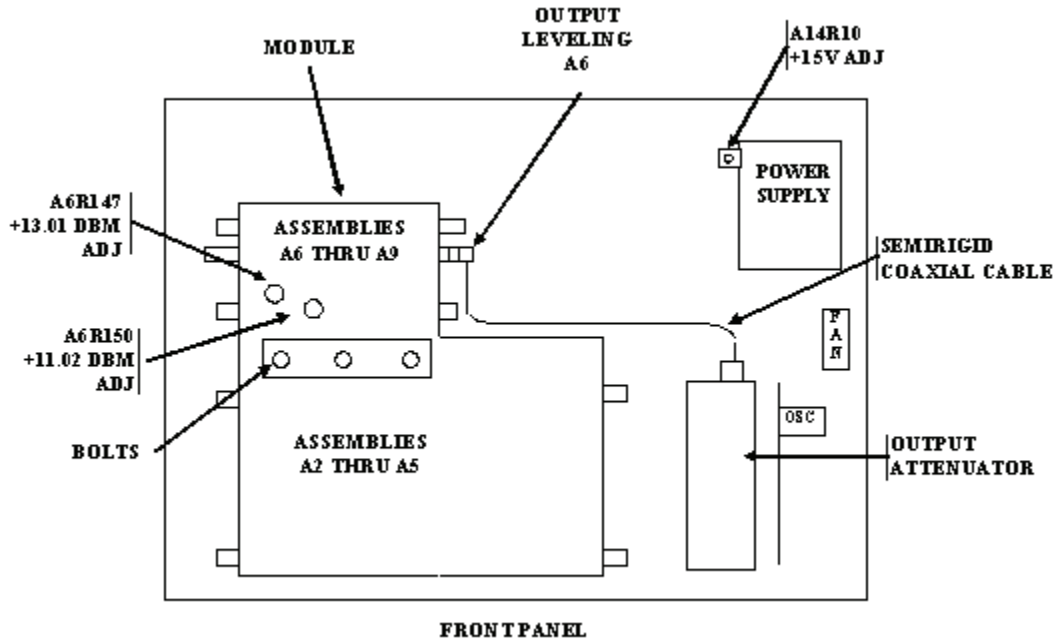
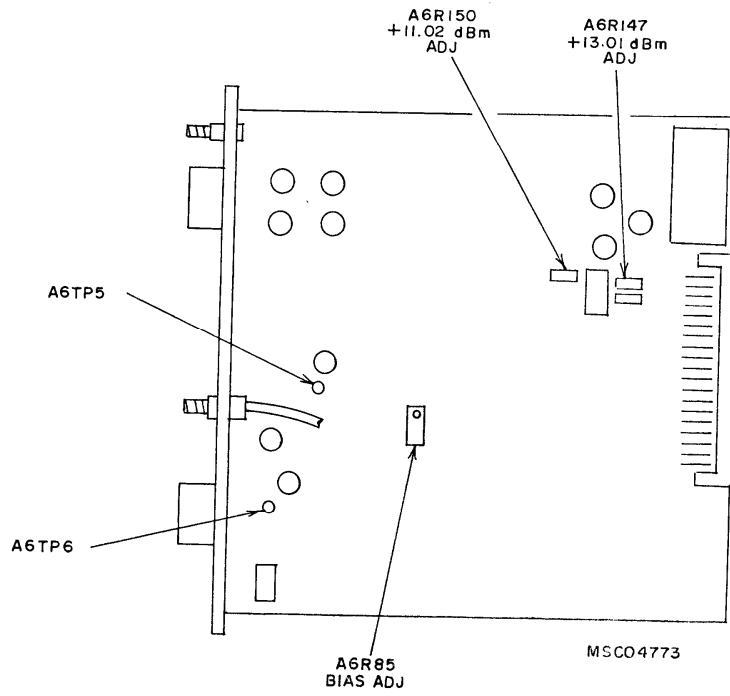
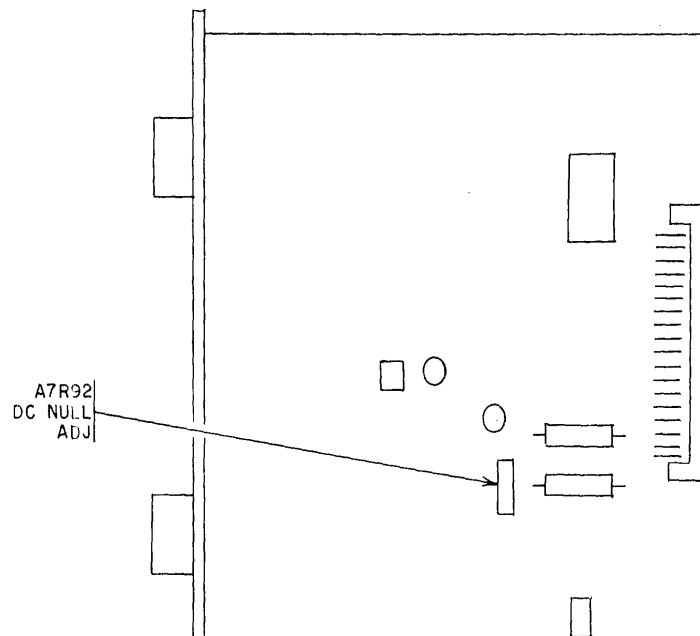

Figure 1. Test Instrument – top view.
Figure 2. A6 output amp/level control.
Figure 3. A7 mixer.
- (1) Press **ON-STBY/POWER** pushbutton to **OFF**.
- (2) Remove top cover.
- (3) Remove three bolts that hold module to chassis (fig. 1).
- (4) Remove semirigid coaxial cable (fig. 1).
- (5) Turn TI on side and remove module from chassis (fig. 1).
- (6) Remove assemblies A6 and A7 (fig. 1) and place on extender boards.
- (7) Install cable from **OUTPUT LEVELING A6** to output attenuator (fig. 1).
- (8) Press **ON-STBY/POWER** pushbutton to **ON**, then press **10, kHz/+dBm, AMPLITUDE, 13.01, kHz/+dBm** pushbuttons.
- (9) Ground A6TP5 (fig. 2).
- (10) Connect multimeter between A6TP6 (fig. 2) and chassis ground. Adjust **A6R85 BIAS ADJ** (fig. 2) for 0 V ±0.01 V dc (R).
- (11) Remove ground from A6TP5 and adjust **A7R92 DC NULL ADJ** (fig. 3) for 0 V ±0.01 V dc (R).
- (12) Press **ON-STBY/POWER** pushbutton to **OFF**.
- (13) Remove extender boards and reinstall assemblies A6 and A7 (fig. 1) into module.
- (14) Replace module in chassis and secure.
- (15) Replace semirigid coaxial cable removed in (4) above.
- (16) Repeat a (8) above.
- (17) Press **ON-STBY/POWER** pushbutton to **ON** and allow TI to operate at least 30 minutes.
- (18) Press **10, kHz/+dBm, AMPLITUDE, 13.01,** and **kHz/+dBm** pushbuttons.
- (19) Adjust A6R147 +13.01 dBm ADJ (fig. 2) for 1 V \pm 0.005 V ac on multimeter. Note and record the difference from 1 V (R).
(20) Press **AMPLITUDE**, **11.02**, and **kHz/+dBm** pushbuttons.
(21) Adjust A6R150 +11.02 dBm ADJ (fig. 2) for a multimeter reading listed in table 5 corresponding to the difference recorded in (19) above (R).
(1) Assemblies A2 through A9 (fig. 1) must be installed before adjustments can be made.
b. Adjustments. Adjust A14R10 +15 V ADJ (fig. 1) for a 15 V dc indication on multimeter (R).